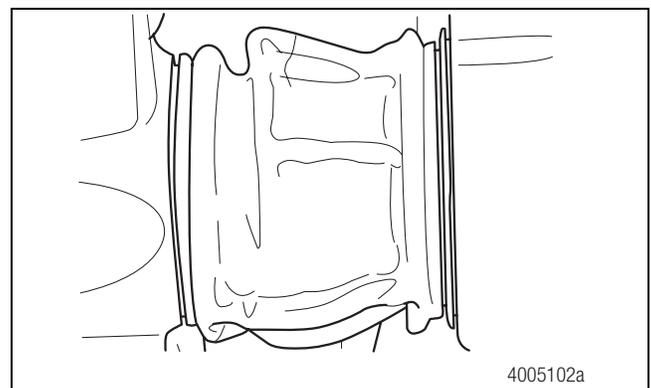

Figure 5.31
6. Check the housing assembly to verify that it slides by hand on the slide pins. Take care not to trap your fingers while you check the sliding action of the housing assembly. Slide the housing assembly back and forth several times to check for smooth movement on the slide pins. The boots are correctly installed if they collapse from the pressure changes within the slide pin mechanism. Figure 5.31.